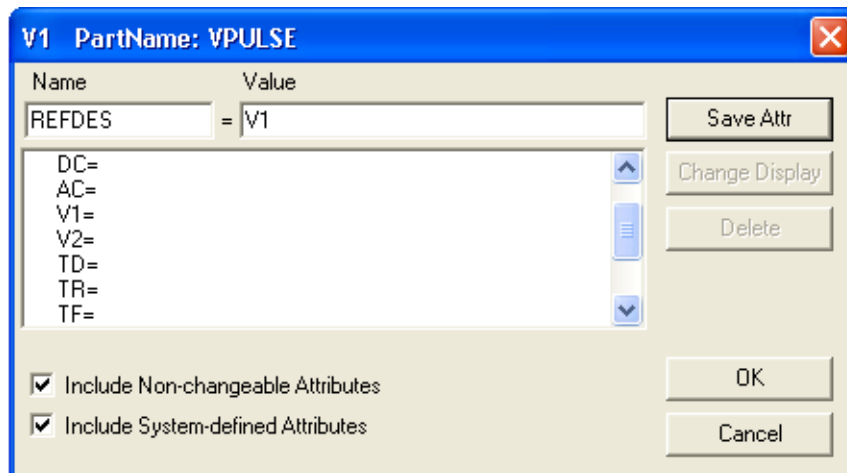

Figure 6
- The VPULSE is often used for a transient simulation of a circuit where we want to make it act like a square wave source. It should never be used in a frequency response study because PSpice assumes it is in the time domain, and therefore your probe plot will give you inaccurate results. Details of VPULSE are (see Figure 6):